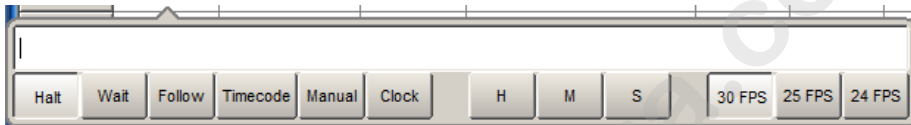

Figure 20.10. The Trigger Toolbar
3. The Trigger Toolbar will appear below the Wait cell; see *Figure 20.10*, “The Trigger Toolbar”. Select an option from this.
3. The Trigger Toolbar will appear below the Wait cell; see *Figure 20.10, "The Trigger Toolbar"*.